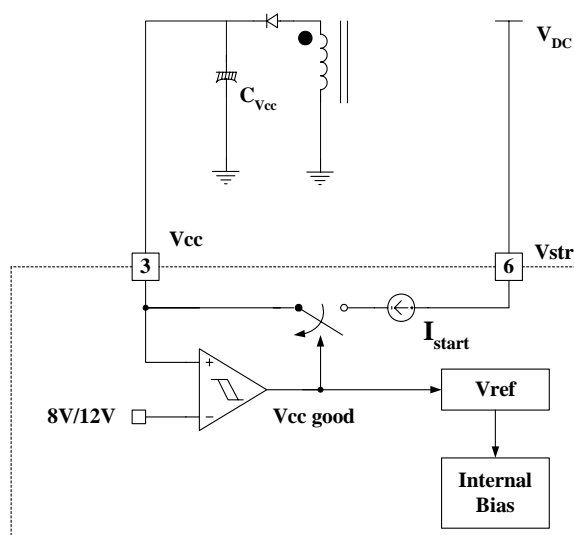

Figure 4. Internal startup circuit
**1. Startup** : In previous generations of Fairchild Power Switches (FPS™) the Vcc pin had an external start-up resistor to the DC input voltage line. In this generation the startup resistor is replaced by an internal high voltage current source. At startup, an internal high voltage current source supplies the internal bias and charges the external capacitor ( $C_{Vcc}$ ) that is connected to the Vcc pin as illustrated in Figure 4. When Vcc reaches 12V, the FSDM0565RB begins switching and the internal high voltage current source is disabled. Then, the FSDM0565RB continues its normal switching operation and the power is supplied from the auxiliary transformer winding unless Vcc goes below the stop voltage of 8V.